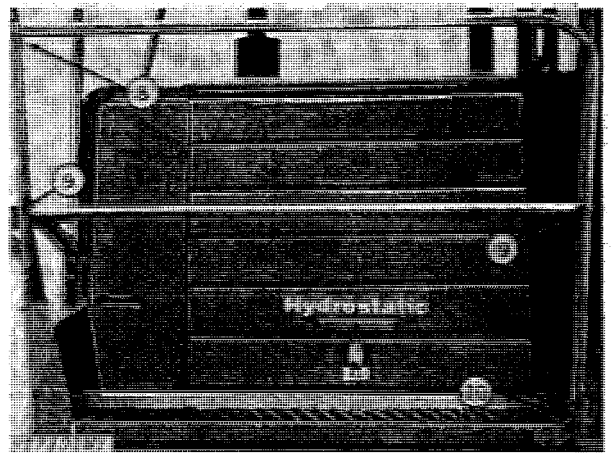

Fig. 4-Installing Front Handrails
8. Attach front handrail to right-hand handrail with one 3/8 x 2-inch round head bolt and nut (Fig. 4).
9. Install front lower handrail with two 3/8 x 2-inch cap screws (Fig. 4).
10. Fasten left-hand lower end of front handrail to front catwalk frame with two 3/8 x 2-inch cap screws and lock nuts (Fig. 4).